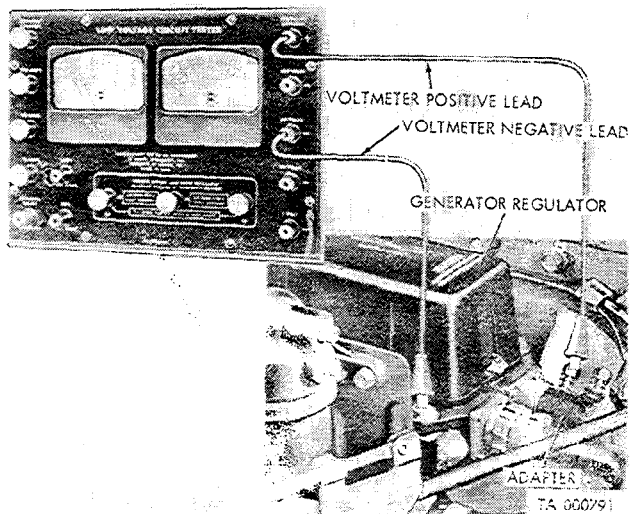

Figure 2-35. Checking voltage regulator setting.
(3) *Connect ammeter test leads.* Connect the ammeter test leads (e(5) and (6) above).
(4) *Connect carbon pile resistor leads to battery.* Connect the carbon pile resistor leads (e(9) above).
(5) *Start engine and read test meters.* Start the engine and operate at a speed equivalent to 20 mph to obtain an ammeter reading of 24 to 27 amperes. Operate the carbon pile switch and knob (e(10) above) and observe the reading on the upper scale of the voltmeter. The reading should not exceed 0.1 volt. Stop the engine after noting the voltage.
(7) *Remove testing equipment.* Remove the testing equipment (e(12) above) and connect the cables to the generator and generator regulator.
h. Check Voltage Regulator Setting (Fig. 2-35). The purpose of checking the setting of the voltage regulator is to determine the cause of inadequate battery charge and/or excessive evaporation of water from the batteries.